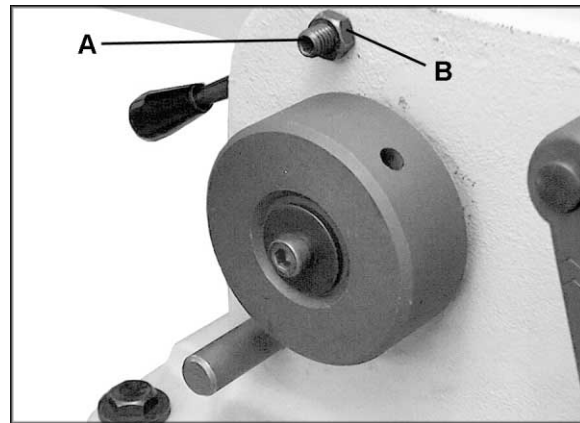

Figure 38
There are four set screws at the front of the jointer – two on the outfeed table and two on the infeed table – that will allow you to prevent “play” in the tables. (Figure 38 shows a set screw for the outfeed table.)
After a period of use, the copper tip (see item #27, page 37) which is attached to the end of the set screw (A, Figure 38) may become loose. Resolve this as follows.
1. Loosen the hex nut (B, Figure 38) with a 14mm wrench.
2. Tighten the set screw (A, Figure 38) with a 5mm hex wrench. Do not overtighten the set screw, as it may prevent the table from being raised and lowered easily.
3. Tighten hex nut (B, Figure 38).